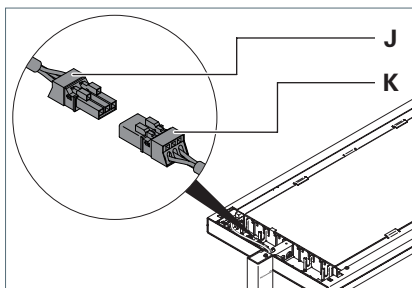

Fig. 5: Connecting the luminaire head, Part 2.
- Connect the socket **J** to the plug **K** at the luminaire head, see Fig. 5.